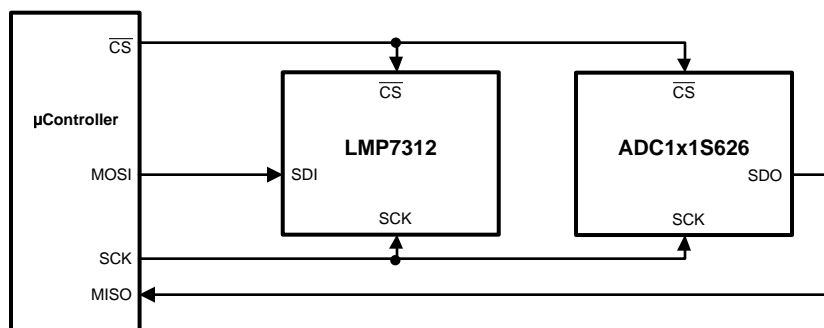

Figure 8. 4-wire SPI with ADC interface
CSB goes low while SCK is low, (3) CSB and SCK both going low. Therefore, if a system uses timing condition #2 above, LMP7312 and ADC1x1S626 can share CSB and SCK as shown in Figure 8. The only side-effect would be that writing to LMP7312 triggers an ADC conversion, but then the result can be ignored. At other times, the LMP7312 is not affected by the CSB assertions used to initiate normal ADC conversions.